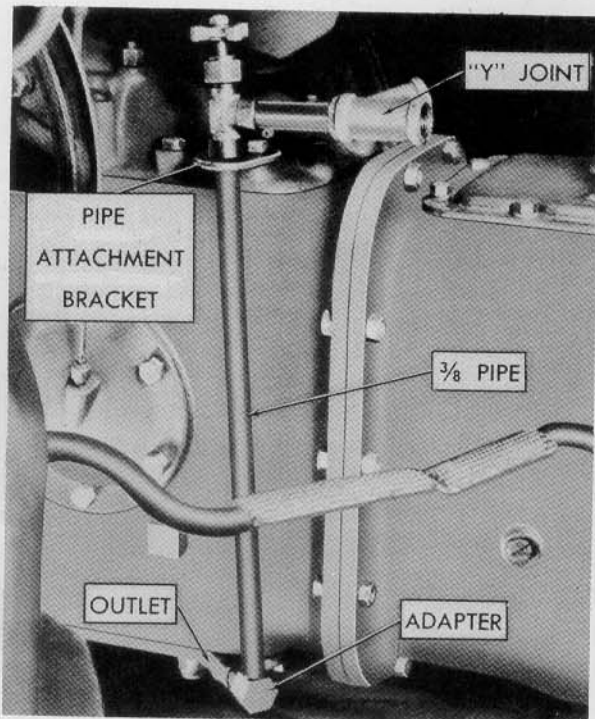

Figure 7
3. Remove the drain plug from the outlet located at the forward right hand corner of the hydraulic pump base. See Figure 7. Save the gasket from this plug for use on the adapter.
4. Place the gasket on the adapter and screw the adapter (wrapped in with safety valve) into the drain plug hole tightly so that the tapped hole in the adapter is upward. Tighten the lock nut on the adapter firmly against the face of the outlet. See Figure 7.
5. Turn the $\frac{3}{8}$ " pipe into the adapter until tight. Be sure "Y" joint faces forward as shown in Figure 7.
6. Remove the cap screw from the right front corner of the tractor hydraulic lift cover and position the pipe attachment bracket, as shown in Figure 7. Secure with the cap screw.